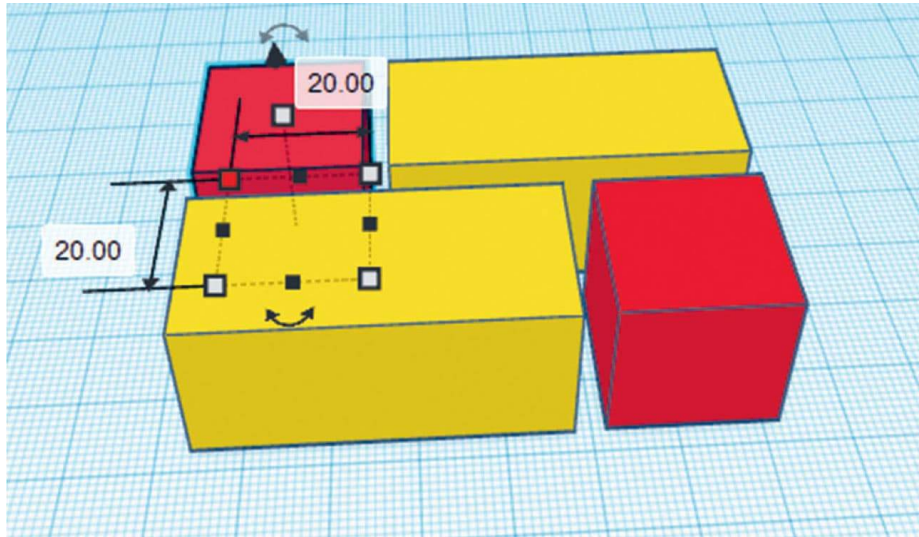

FIG. 2: Create four boxes for the puzzle shapes.
2. Then make a 44 mm × 20 mm box and make a copy of it. We now have two larger puzzle pieces as well. Fig. 2 shows all four pieces.